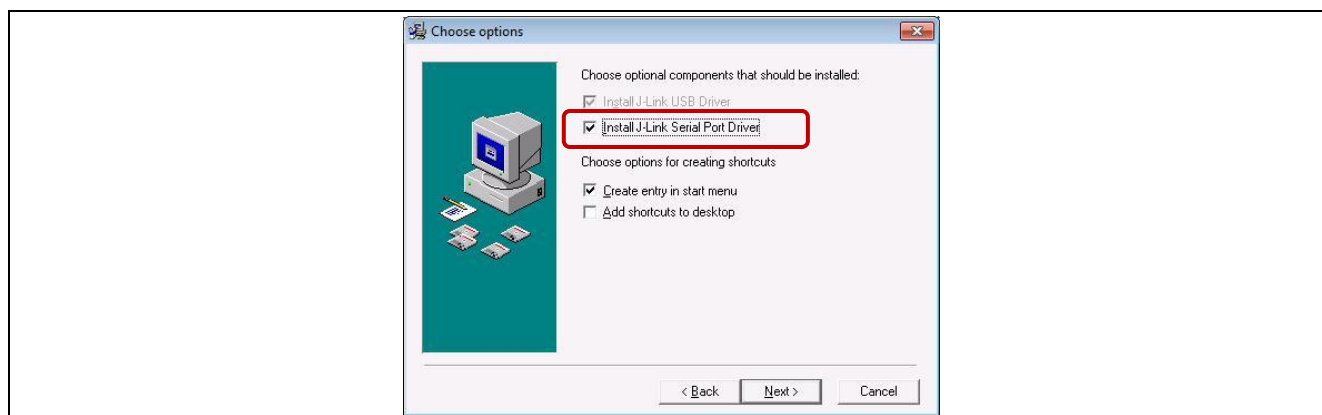

Figure 9 Installation of Serial Port Driver
- [1] Newer firmware versions of the on-board debugger require the latest J-Link driver (V4.62 or higher) and a Serial Port Driver (CDC driver) installed on your computer. Please check “Install J-Link Serial Port Driver” when installing the latest J-Link driver (see Figure 9)